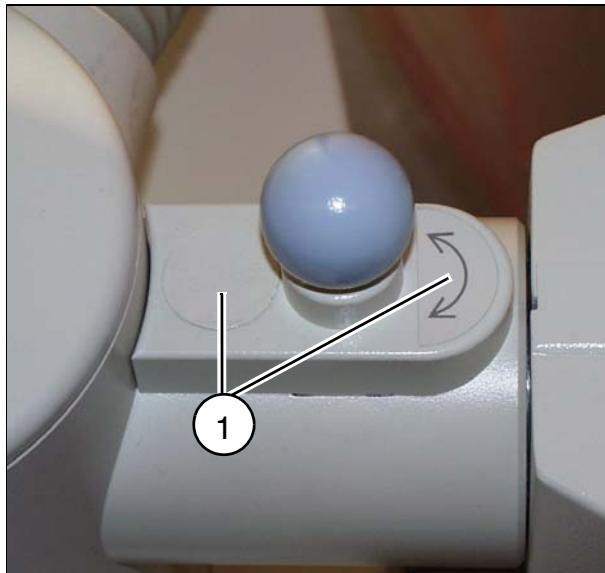

Fig. 39
- Remove the two labels (1/Fig. 39).